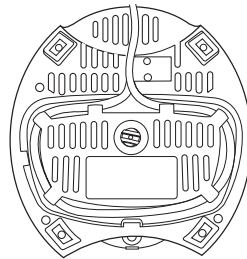

Figure 6
- Turn the appliance upside down to reveal a drain plug located in the centre of the base. (See figure 6).